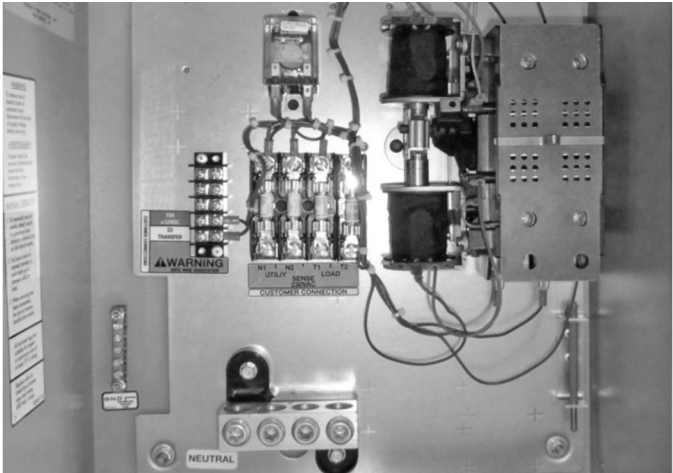

Figure 2-5.
9. After mounting the switch, remove the cover to make the electrical connections (see Figure 2-5).